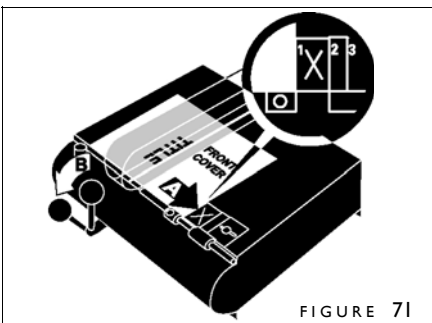

FIGURE 71
- Bring the Lever upright to unclamp the cover. Slide your cover over so its right edge (A) stops against step 1 (figure 71). Push the Lever to the left (B) to score.